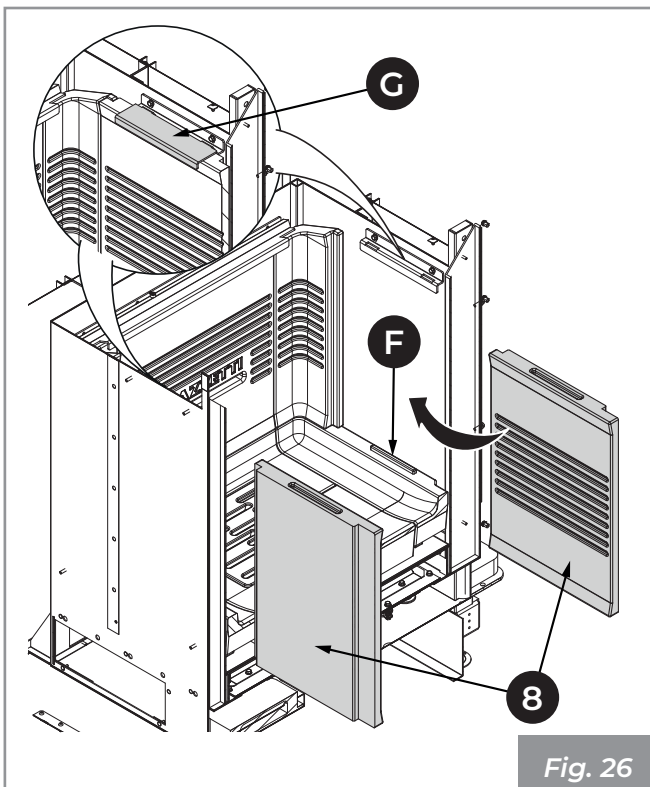

Fig. 26
10) Place the refractory side plates (**8**) into the combustion chamber and gently slide it into position, centring them with the protuberances (**F**) present in the refractory brick base (**Fig. 26**).